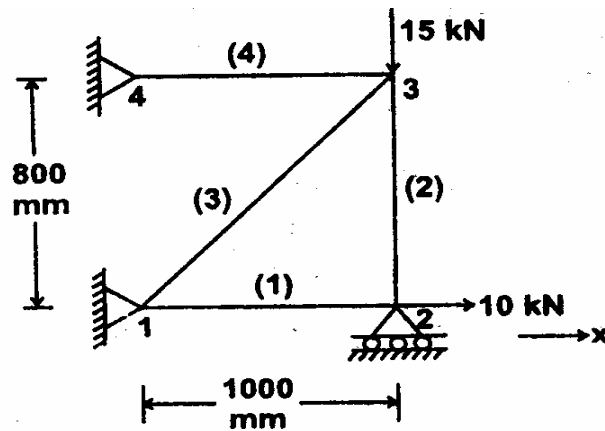

figure 2.7
7. Consider a 4-bar truss as shown in figure 2.7. It is given that $E = 200 \text{ GPa}$ and $A = 500 \text{ mm}^2$ for all the elements. Determine (a) Nodal displacements (b) Support reactions (c) Element stresses.